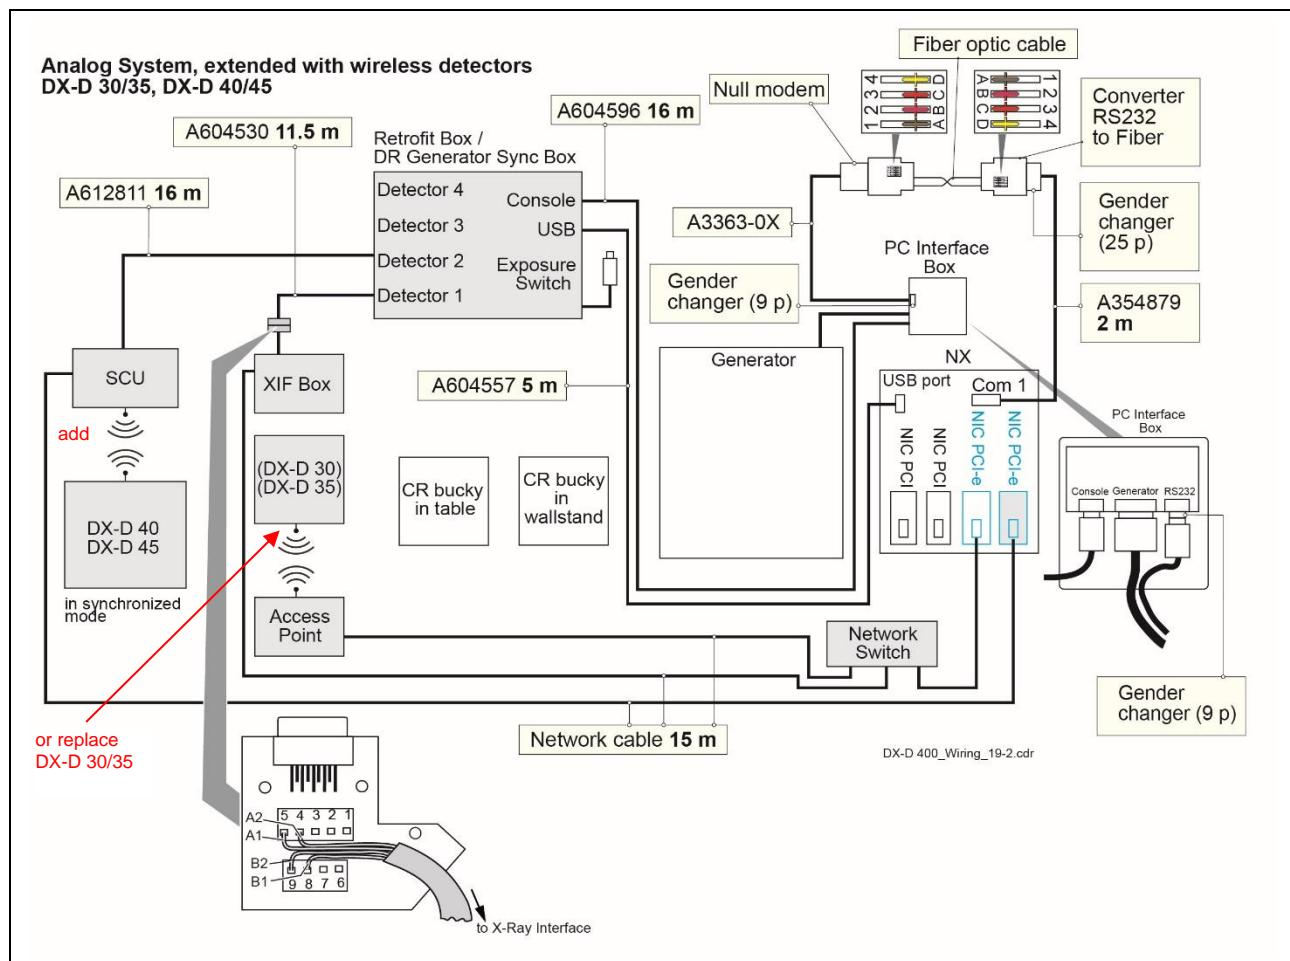

Figure 10: Analog system – DX-D 40/45 detector with HW sync added to installed DX-D 30/35 detectors
- (1) Install the DX-D 40/45 detectors in synchronized mode.
- For the wiring diagram analog systems refer to Figure 10